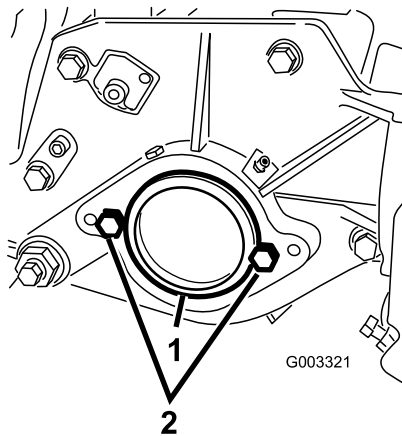

Figure 7
2. On right end of cutting unit, remove the plastic plug from the bearing housing (Figure 7).
3. Remove the 2 cap screws from the right side plate (Figure 7).
2. Cap screw (2)
5. Loosely install the 2 reel motor mounting cap screws to the left side plate of the cutting unit (Figure 7).